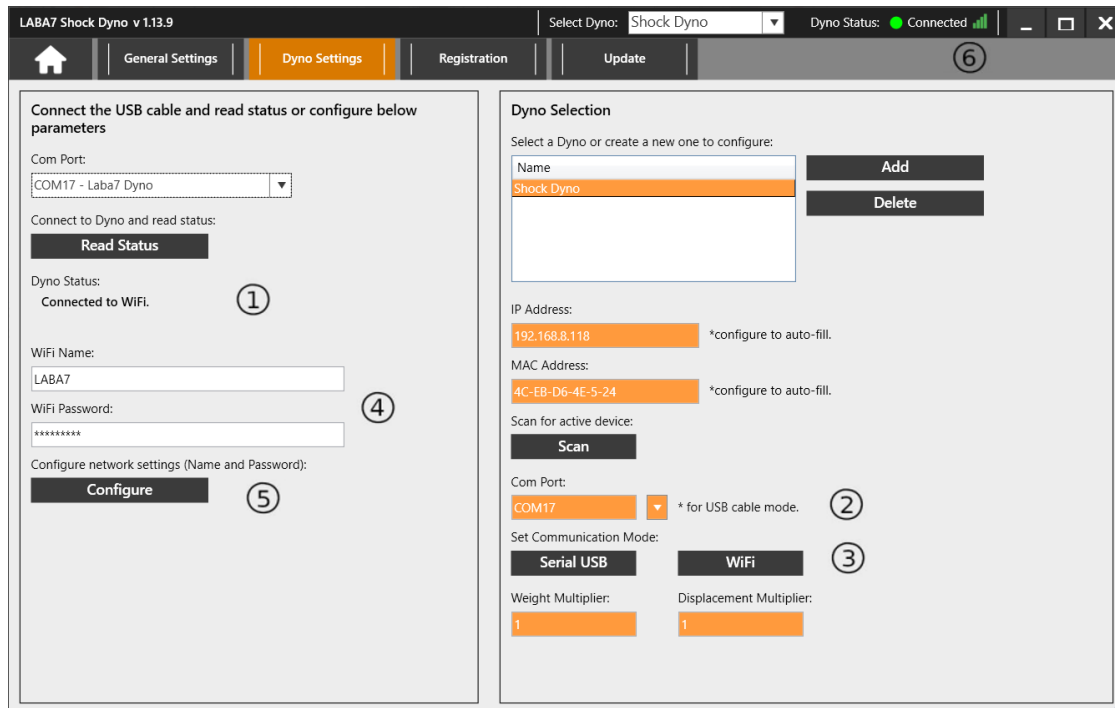

Figure 18
10. Note the Status that was received from Dyno (Figure 18 – Step 1).
12. Select the Com Port of the connected Dyno from the drop-down menu in the Dyno Selection area (Figure 18 – Step 2).
13. Click on the Wi-Fi button in order to enable wireless communication mode in the Dyno (Figure 18 – Step 3).
14. Enter Wi-Fi name and password into the corresponding fields (Figure 18 – Step 4).
15. Click on Configure button (Figure 18 – Step 5).